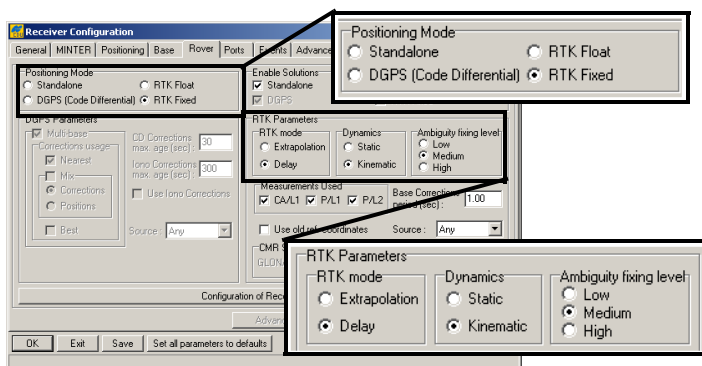

Figure 3-26. Rover Configuration
10. For the Rover receiver, click the *Rover* tab, and set the following parameters, then click **Apply** (Figure 3-26 on page 3-32).